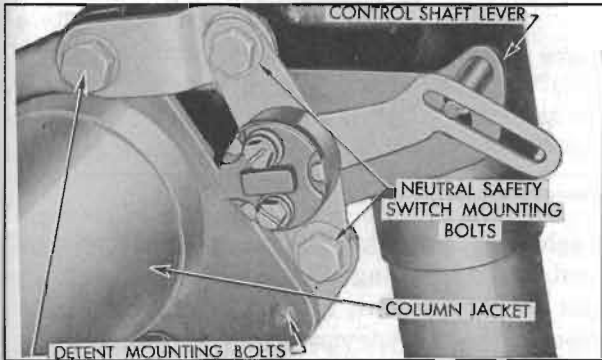

Figure 10-43—Neutral Safety Switch Mounting
9. Loosen neutral safety switch mounting bolts at lower end of steering gear column jacket (fig. 10-43) and raise switch up as far as it will go.